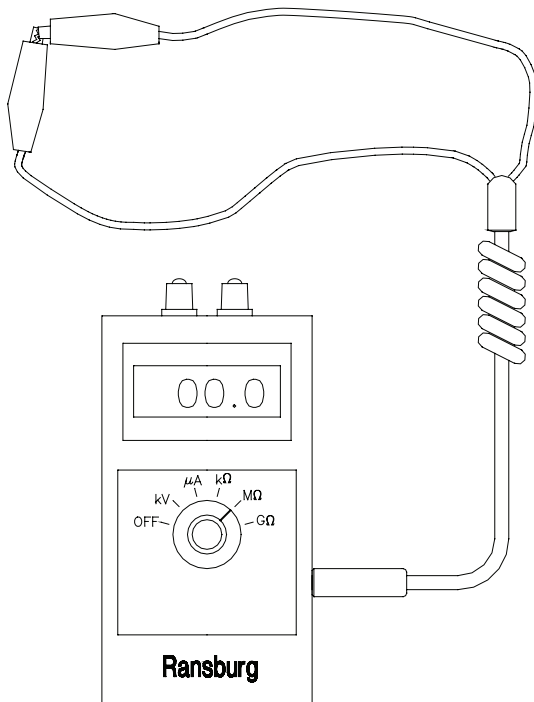

Figure 3: Calibration Check Resistance
1. Set the meter dial to the $M\Omega$ scale (see Figure 3). Plug the probe with two (2) alligator clamp leads into the side of the meter. Check the meter calibration by touching the metallic ends of the two (2) probes together. If the meter reads zero, the meter is in calibration. If it does not read zero, verify the continuity of the probe assembly and re-perform the check. If the meter still does not read zero, consult the factory for repair of the meter.